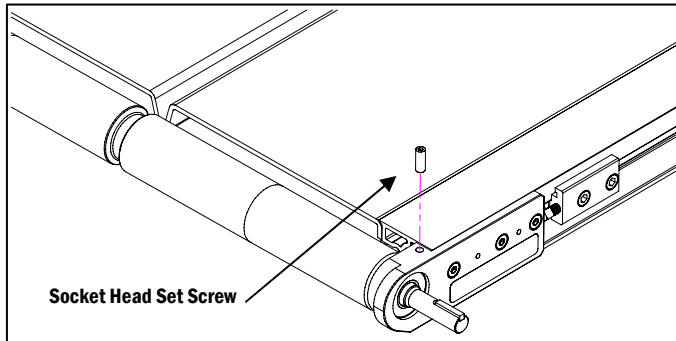
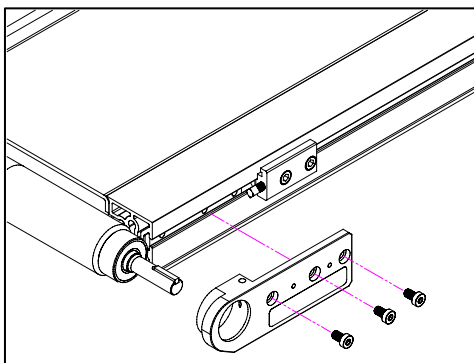

Figure 1
Figure 6
① Drive End Bearing Replacement
b. At the drive end of the conveyor, locate the bearing screw access holes in each Bearing Block. Using an Allen Wrench, completely remove both set screws and set aside (**Figure 1**).
h. Replace the three M6 Low Head Cap Screws in each Bearing Block and tighten with an Allen Wrench (Figure 6). Center the Drive Pulley V-Groove to the V-Groove in the slider bed. Tighten the bearing set screws in to the bearing screw access holes in each Bearing Block to lock the bearings into place (Figure 1). There should be no lateral float in the assembly.